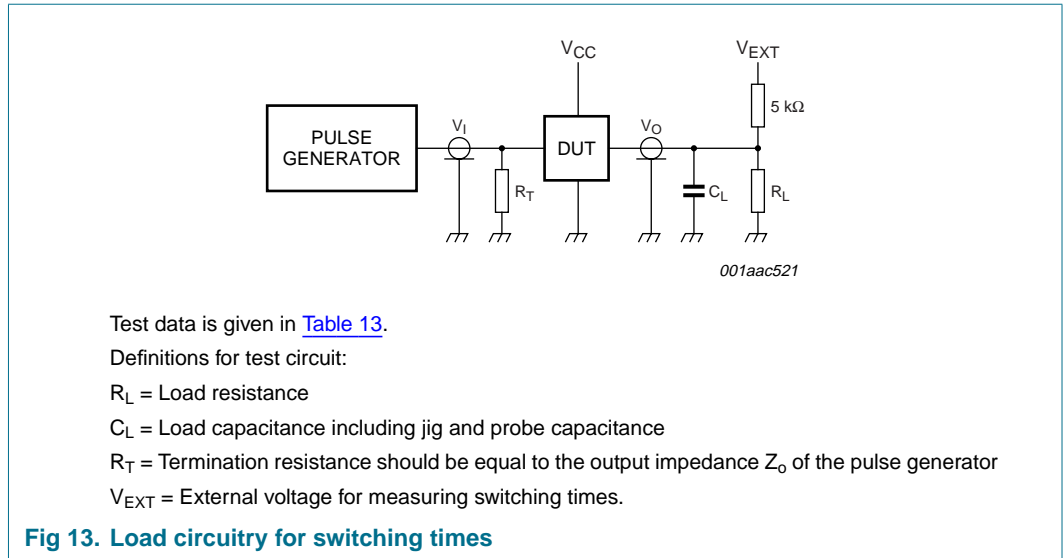

Fig 13. Load circuitry for switching times
**Table 10: Dynamic characteristics**Voltages are referenced to GND (ground = 0 V); for test circuit see Figure 13
**Table 10: Dynamic characteristics ...continued**Voltages are referenced to GND (ground = 0 V); for test circuit see Figure 13
Voltages are referenced to GND (ground = 0 V); for test circuit see Figure 13